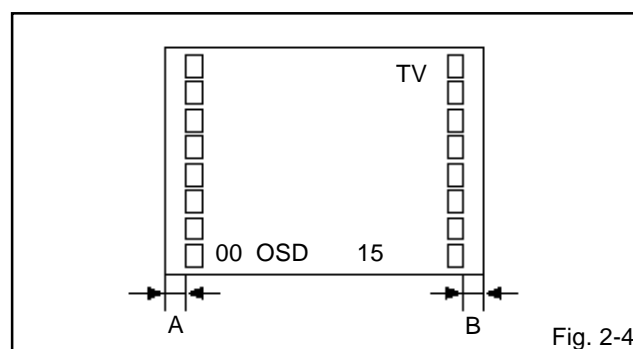

Fig. 2-4
2. Press the VOL. UP/DOWN button on the remote control until the difference of A and B becomes minimum. **(Refer to Fig. 2-4)**